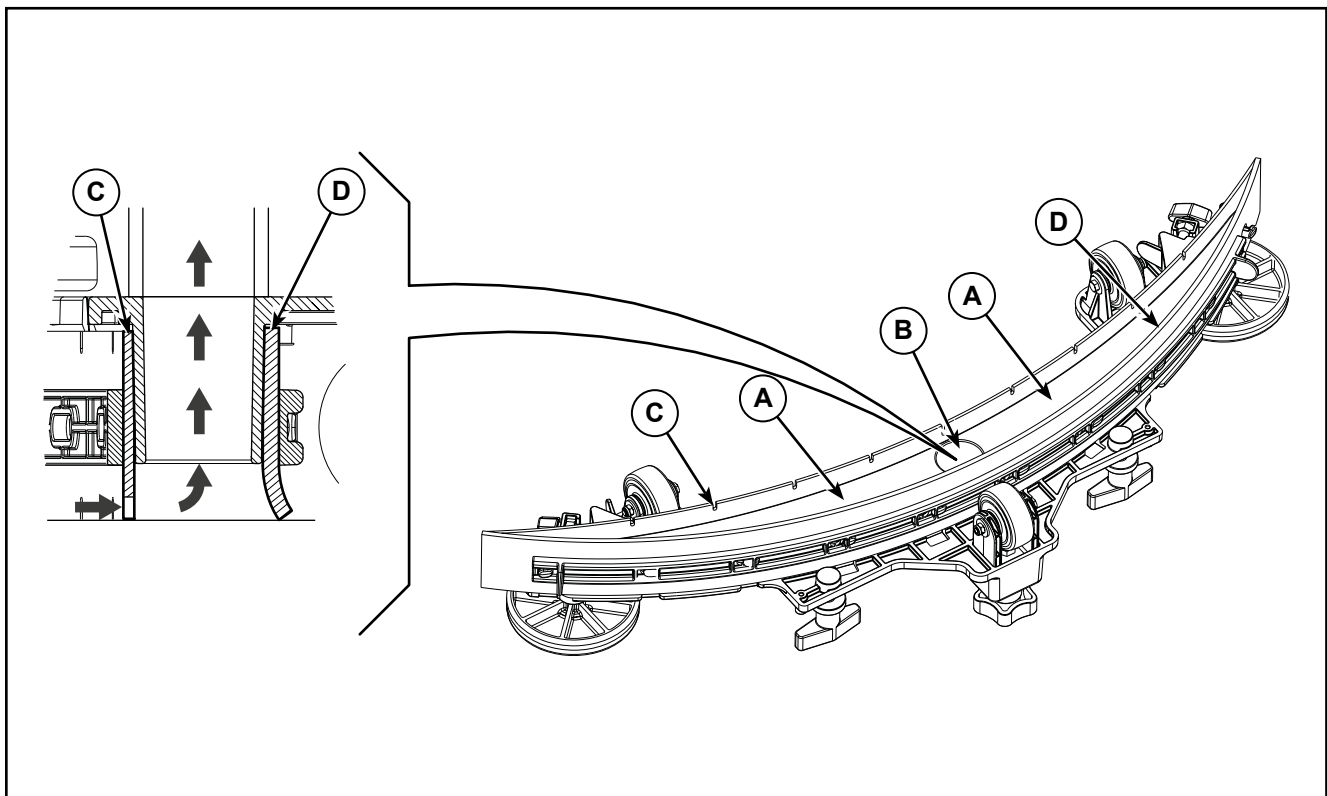

Figure 2:
4. Wash and clean the squeegee. In particular, clean the compartments (A) (Figure 2) and the vacuum hole (B). Check that the front blade (C) and the rear blade (D) are integral and free from cuts and lacerations; if necessary replace them.